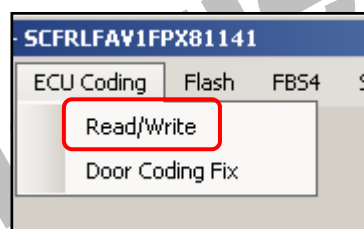

Figure 1
3. Select "Read/Write" from the "ECU Coding" drop down list (refer to Figure 1)